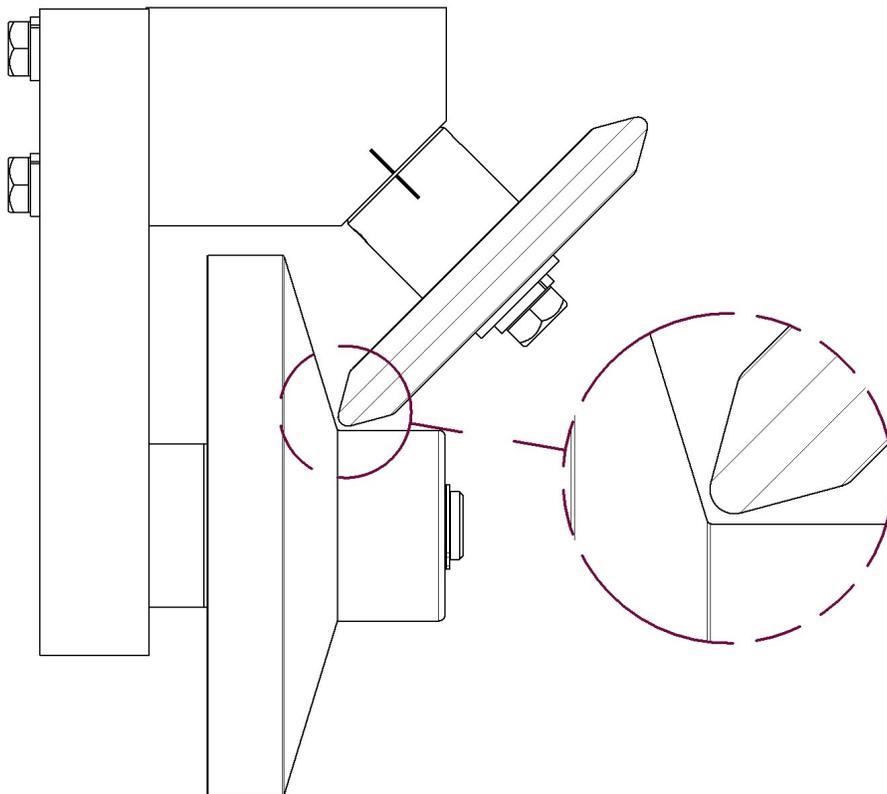
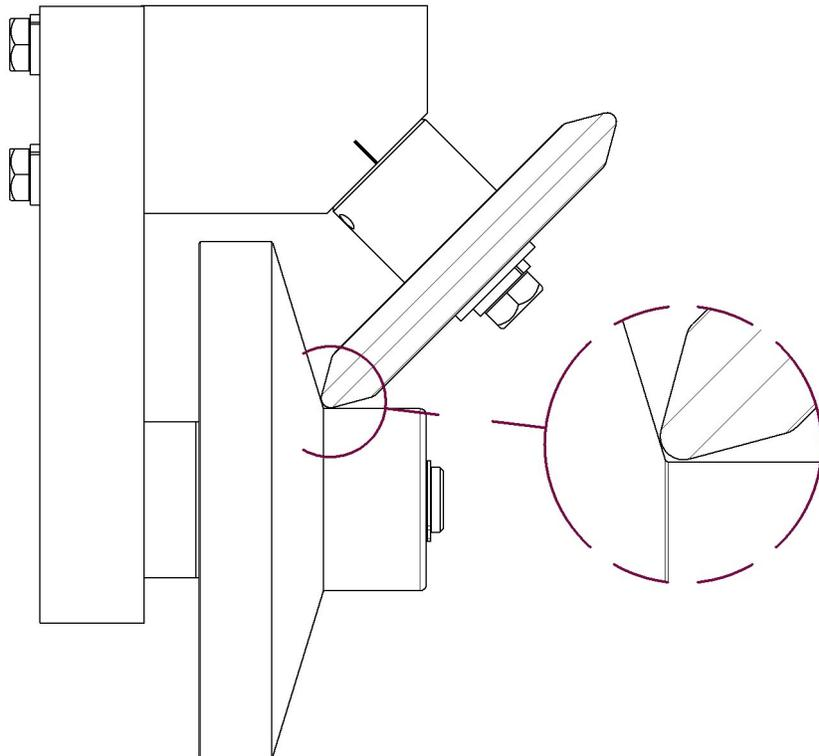

Figure 65: Eccentric Shaft Proper Adjustment
Figure 67: Eccentric Shaft Too Tight
3. Rotate the shaft to the desired angle. (See Figure 65 - Figure 67).